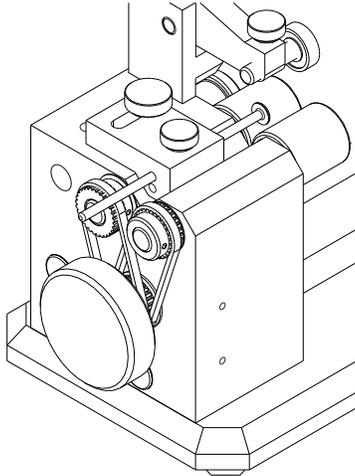
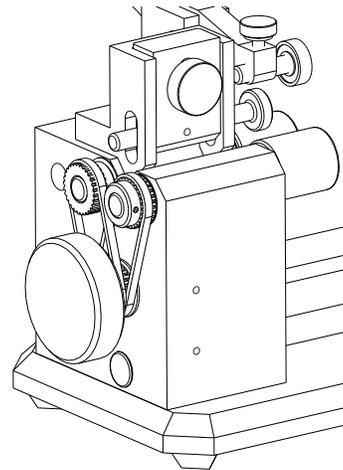

Figure 14. Top Stop (All Models)
Figure 15. Flat Plate Top Stop
9.0 Top Stop Set-up – (See Figures 14 and 15)
The Top Stop and Flat Plate Top Stop Assemblies are available as optional items to ensure that the part being inspected does not travel in a linear direction and produce false readings. Figure 14 shows a standard Top Stop Assembly that can be used with all Models. The Thumb Screw is loosened and the Pin is extended to contact the back end of the part. Figure 15 shows a Flat Plate Top Stop Assembly available for the –10 and 20 Models only. This assembly has an additional vertical adjustment that can be used to accommodate various part diameters. There are also different pin diameters available for more or less contact area.